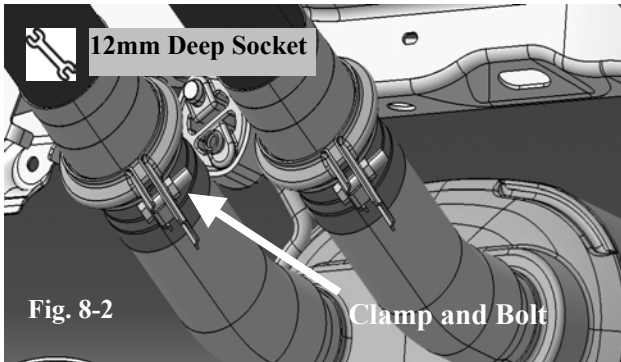

Fig. 8-2
- (d) Place clamp around flare and tighten bolt to 24±5 lb-ft (32±6 N-m) of torque. (Fig. 8-2)
**NOTE:** Be sure to keep clamp handle orientation as shown in Fig. 8-2.